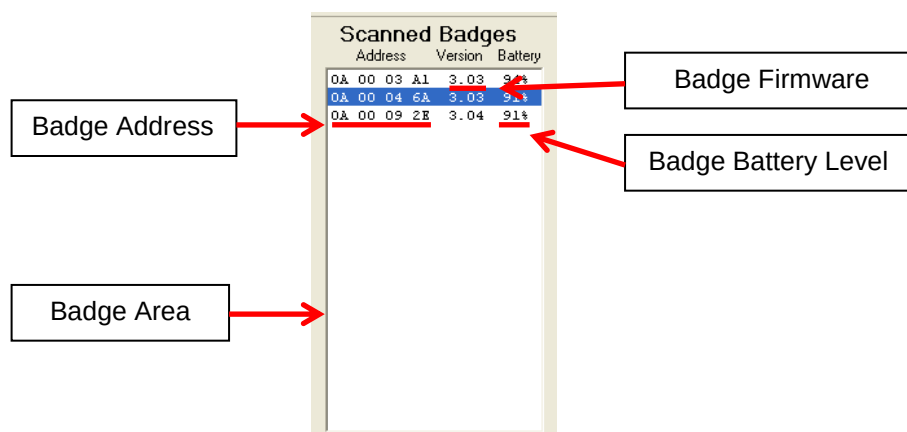

Figure 3 Badge Control
2.3 Badge Control (see Figure 3)